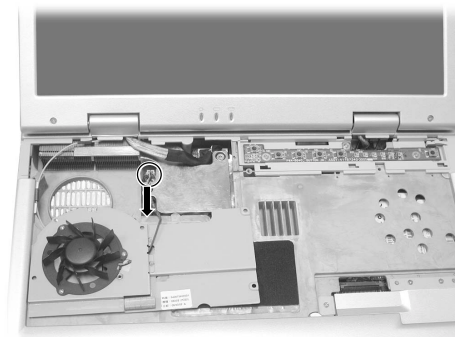

Figure 2-7 Disconnect the cable
4. Disconnect the fan's power cord from system board. Then remove the plate Assy. (Figure 2-7)